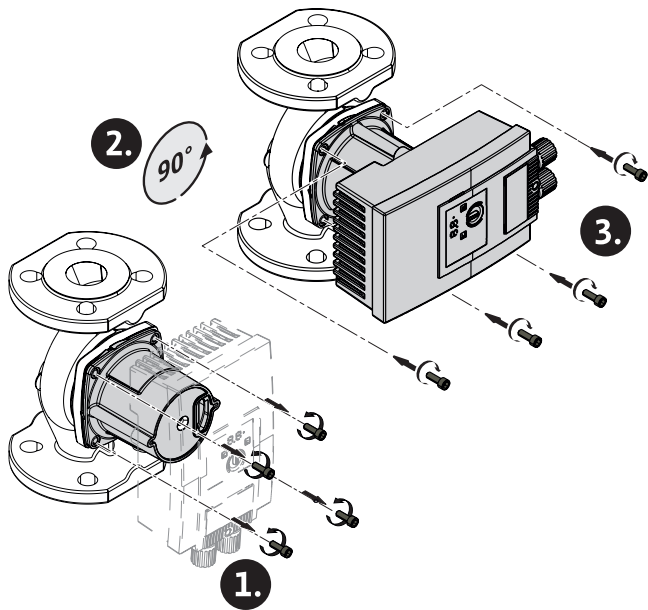

Fig. 5: Align motor
2. Detach motor head and carefully turn → Fig. 5.